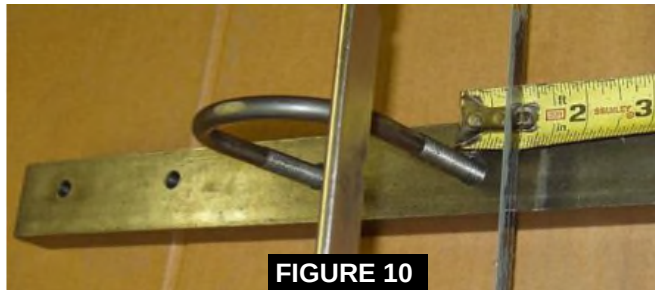

FIGURE 10
6. Cut off any excess material from the Shear Securing Bar as shown in Figure 10.